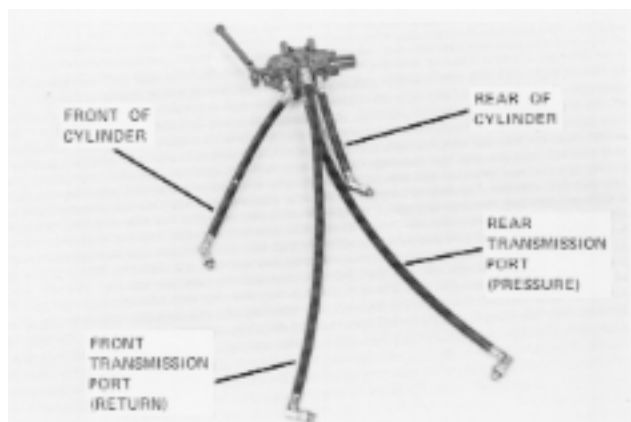

Fig. 7-5 C-Series Hydraulic Valve Hose Connections
For proper hose connections, see Fig. 7-5. After re-assembling, check transaxle oil level after running the engine and operating the lift system for one (1) minute.